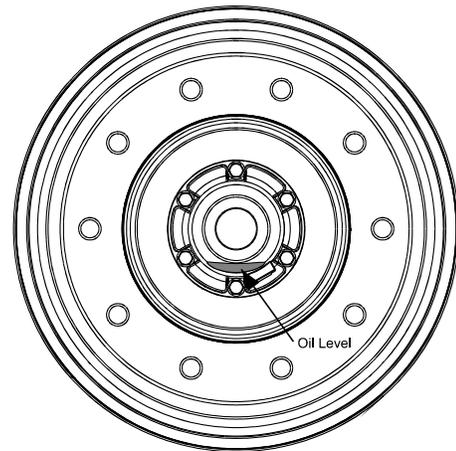

Figure 19 - Wheel Bearing Oil Level
23. Check oil level through the hubcap window (**Figure 19**). If level is below the “add” level line, then fill with recommended oil until “full” level is achieved. Add oil slowly since the heavy weight oil will settle slowly in the hub. (Note: The hubcap window can only be cleaned with mild soap and water. Aromatic solvents should not be used, as they will impair the transparency of the window.)